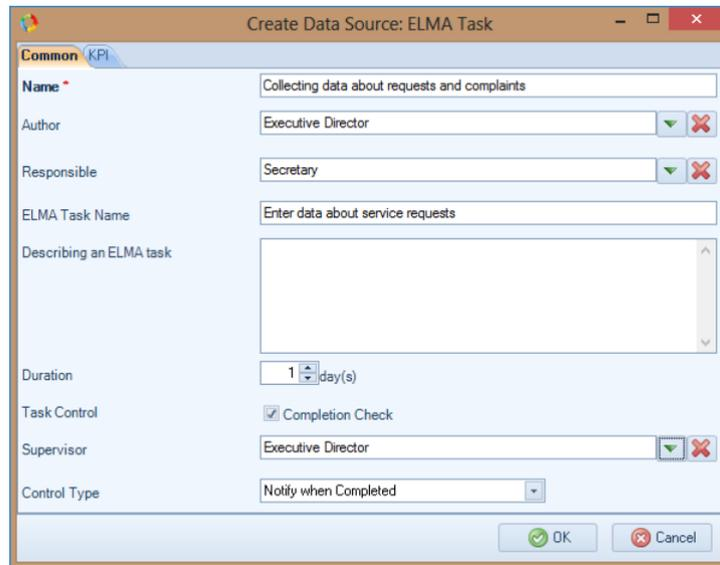

Fig. 31. General settings for data collection
- **Task control** - tick the **Completion Check** box and in the appeared fields choose the executive director as a supervisor and set **Notify when completed** as the **Control Type** (Fig. 31).